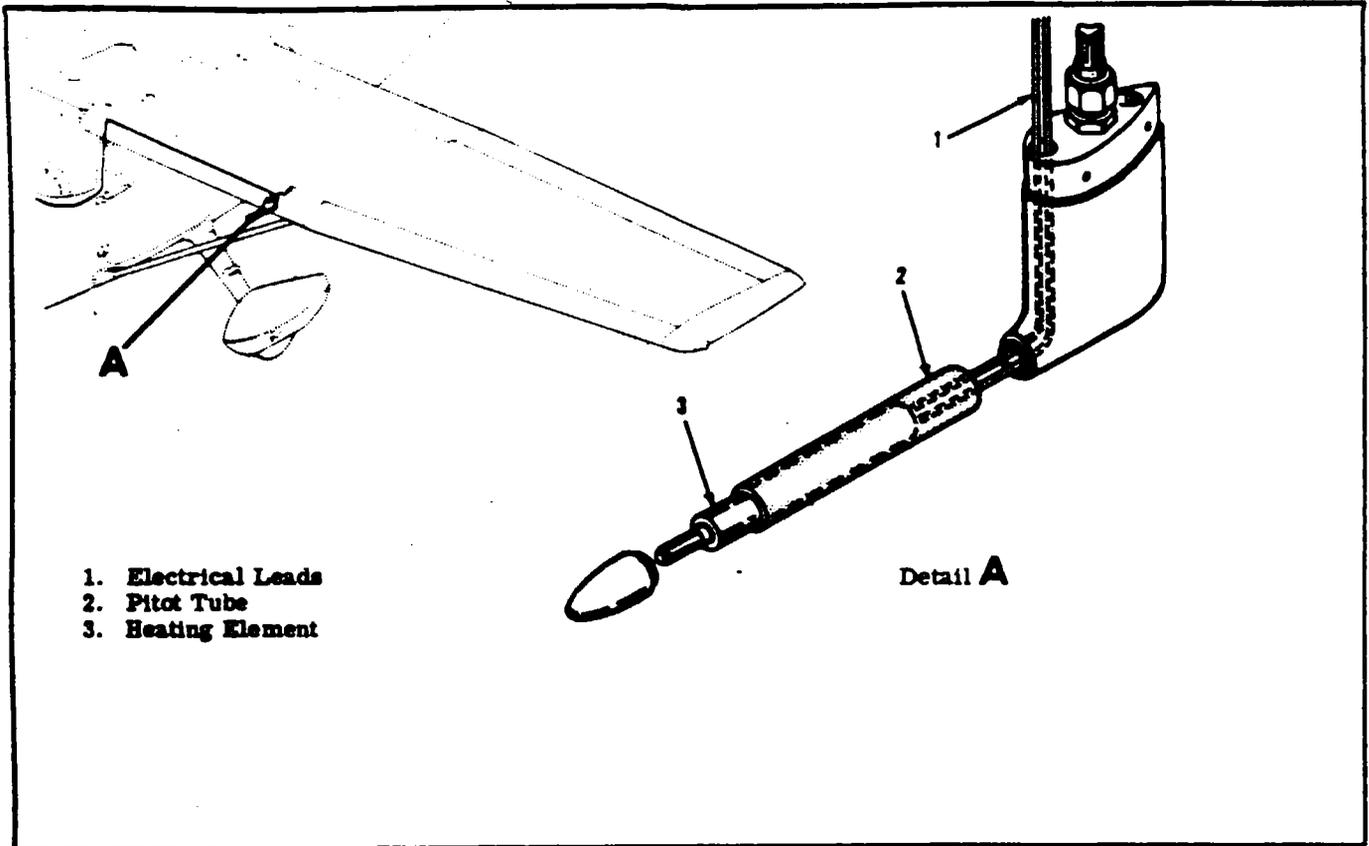

Figure 16-13. Heated Pitot Installation
- To remove rheostat remove screws securing bracket (10).
- Disconnect electrical leads from rheostat (8).
- 16-85. **DESCRIPTION.** An electrical heater unit is installed in some pitot tubes. The heater offsets the possibility of ice formations on the pitot tube. The heater is integrally mounted in the pitot tube and is operated by a switch on the instrument panel. (See figure 16-13.)
16-89. DESCRIPTION. The ELT is a self-contained, solid state unit, having its own power supply, with an externally mounted antenna. The C589511-0209 transmitter is designed to transmit simultaneously on dual emergency frequencies of 121.5 and 243.0 Megahertz. The C589510-0211 transmitter thru 17265192 and the C589510-0212 beginning with 17265193 used for Canadian registry, operates on 121.5 only. The unit is mounted in the tailcon, aft of the baggage curtain on the right hand side. The transmitters are designed to provide a broadcast tone that is audio modulated in a swept manner over the range of 1800 to 300 Hz in a distinct, easily recognizable distress signal for reception by search and rescue personnel and others monitoring the emergency frequencies. Power is supplied to the transmitter by a battery-pack which has the service life of the batteries placarded on the batteries and also on the outside end of the transmitter. ELTs are equipped with a battery-pack containing alkaline "D" size batteries (See figure 16-13). The ELT exhibits line of sight transmission characteristics which correspond approximately to 100 miles at a search altitude of 10,000 feet. When battery inspection and replacement schedules are adhered to, the transmitter will broadcast an emergency signal at rated power (75 MW-minimum), for a continuous period of time as listed in the following table.